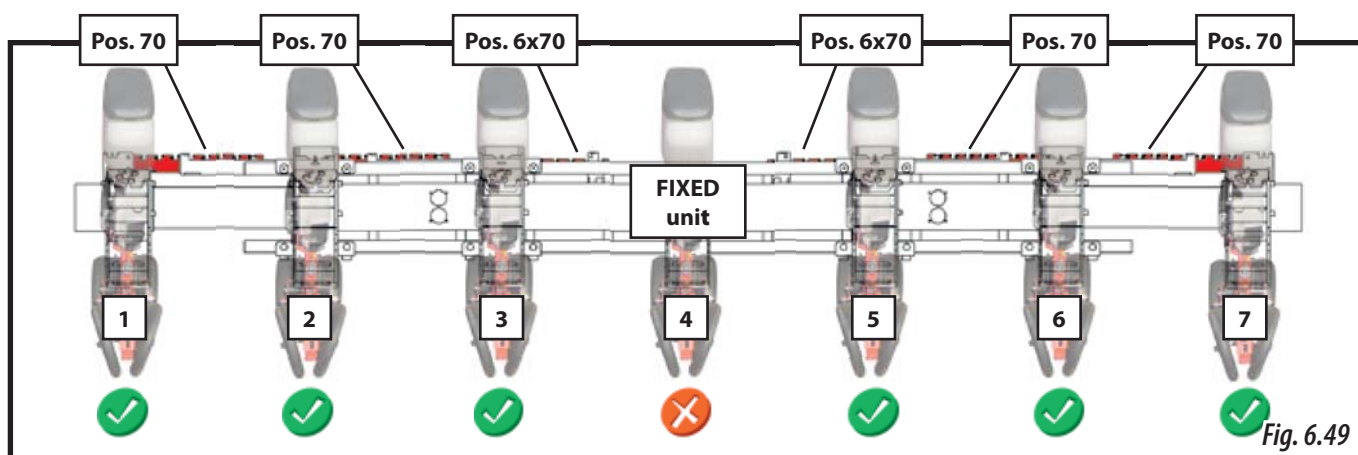

Fig. 6.49
- 1- Exclude the central unit (Fig. 6.49), see section 6.7 EXCLUDING A METERING UNIT.
- 3- Place the aperture stops of the units at the position indicated in Fig. 6.49: